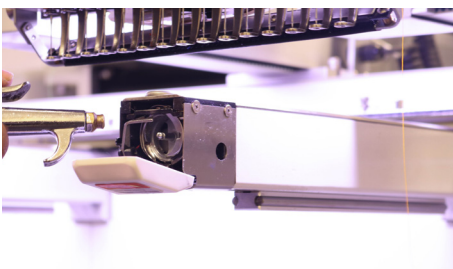

Figure 108
1. Once a day, remove the bobbin case and clean the hook assembly area with a soft brush, air compressor with a moisture filter or approved canned compressed gas product, such as Dust Off. **See Figure 108.**